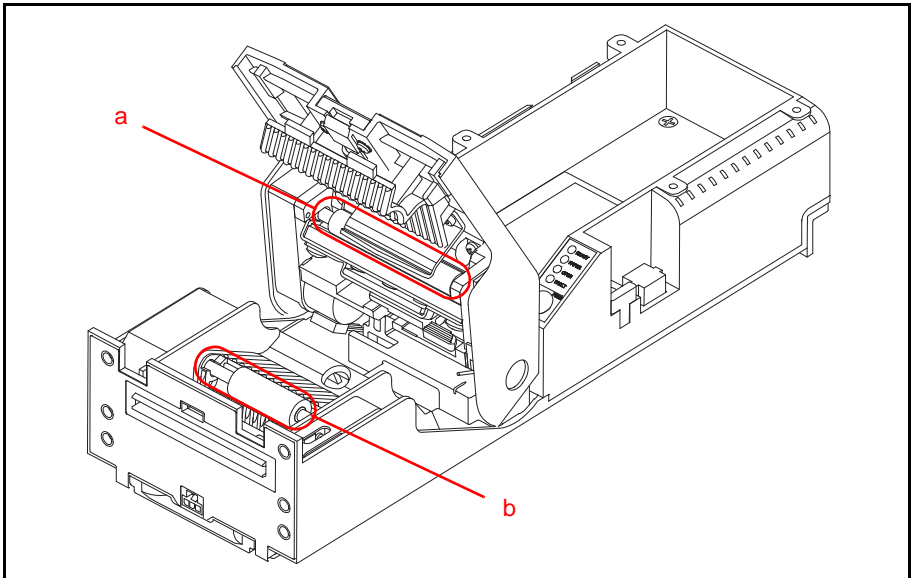

Figure 7 Clean Print Head Rollers and Feed Rollers
5. To clean the Print Head Rollers (Figure 7 a) and the Presenter Assembly's Feed Rollers (Figure 7 b), turn the Rollers by hand while wiping them with a new Cleaning Wipe or a clean Microfiber cloth (slightly dampened with Isopropyl Alcohol).